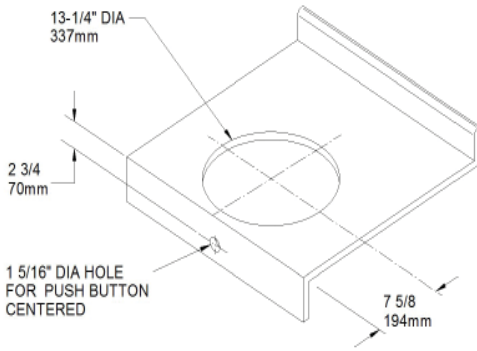

Figure 1
1. Make 13-1/4" (337mm) diameter cutout indicated location on countertop. Maintain the 7-5/8" (194mm) dimension from the front edge for ADA compliance. Make 1-5/16" diameter on front of countertop (See Figure 1).